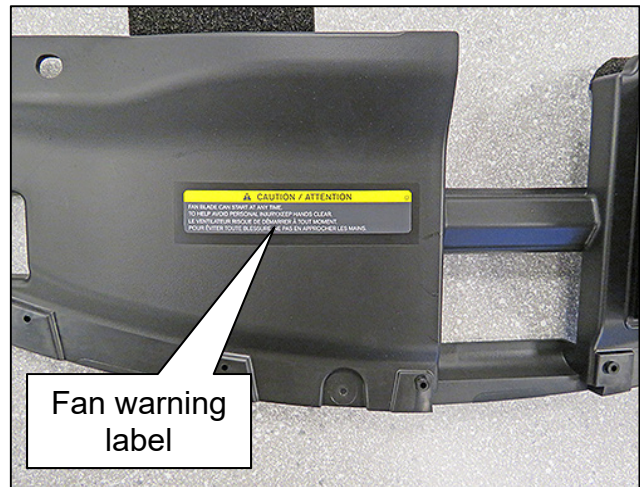

Figure 17
13. Clean the area on the top of the new front grille spacer shown highlighted in Figure 17 with 50% isopropyl alcohol.
14. Attach the LABEL-CAUTION, MOTOR FAN (fan warning label) to the top of the new front grille spacer where shown in Figure 17.